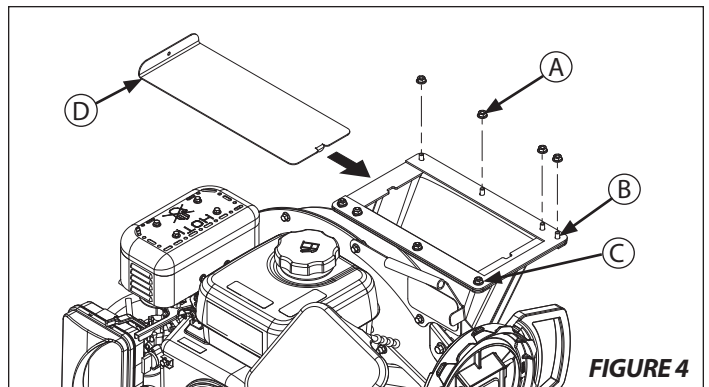

FIGURE 4
1. Remove back four M6-1.0 nuts (A) and set nuts and rear stud plate (B) aside. Loosen front four M6-1.0 nuts (C), do not need to remove. Install damper (D). **SEE FIGURE 4**